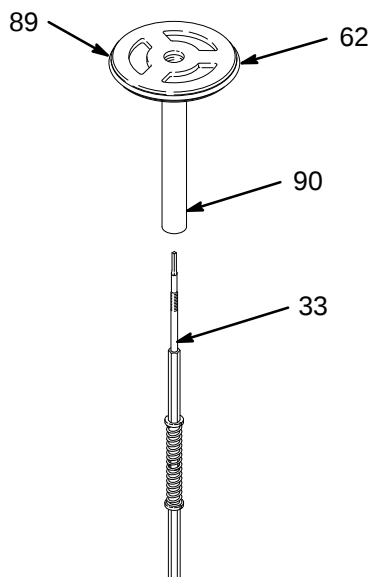

Fig 7
17. Remove the trip rod (33) from the piston rod (90). See Fig 7.